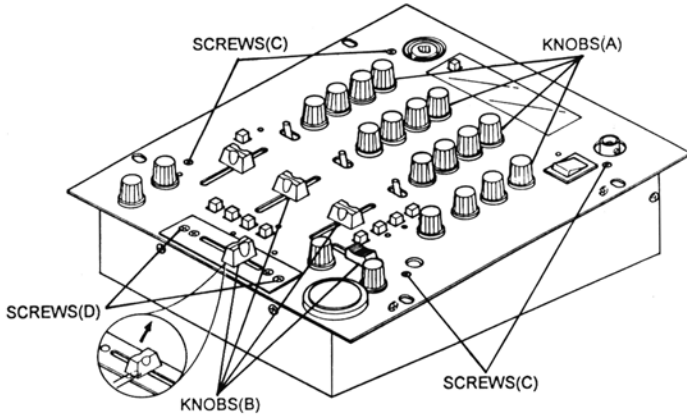

Fig. 1
- (a) Remove 20 knobs(A).(Fig. 1 )
- (b) Remove 5 knobs(B).(Fig. 1)
- (c) Remove 4 screws(C).(Fig. 1)
- (d) Remove 2 screws(D).(Fig. 1)